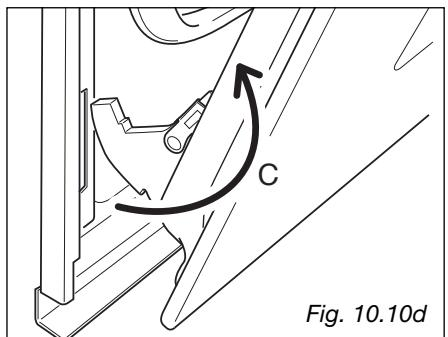

Fig. 10.10d
- Withdraw the hinge hooks from their location following arrow "C" (fig. 10.10d).